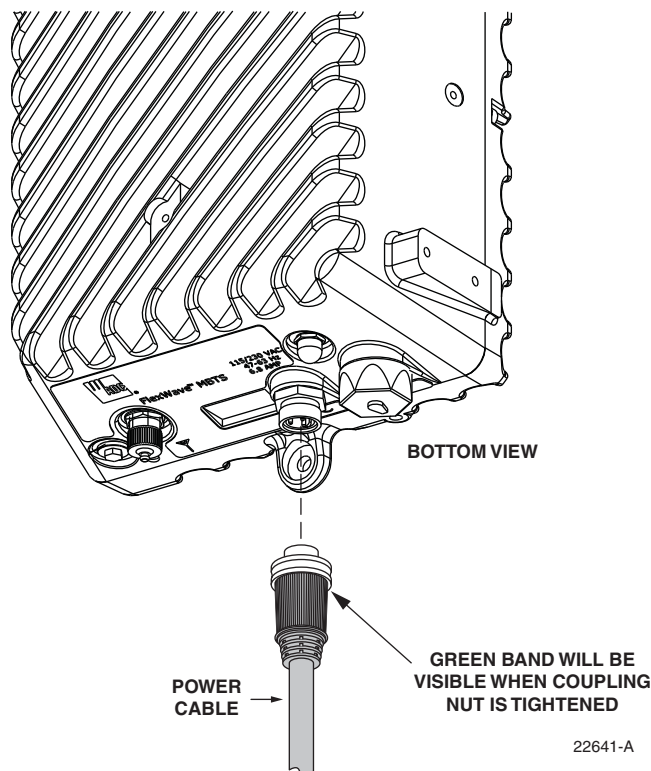

Figure 4-7: Connecting AC Power Cable to Enclosure
- 9 Remove the dust cap from the AC power port located on the bottom of the enclosure as shown in Figure 4-7.
- 9 Remove the dust cap from the AC/DC power port located on the bottom of the enclosure as shown in Figure 4-7.